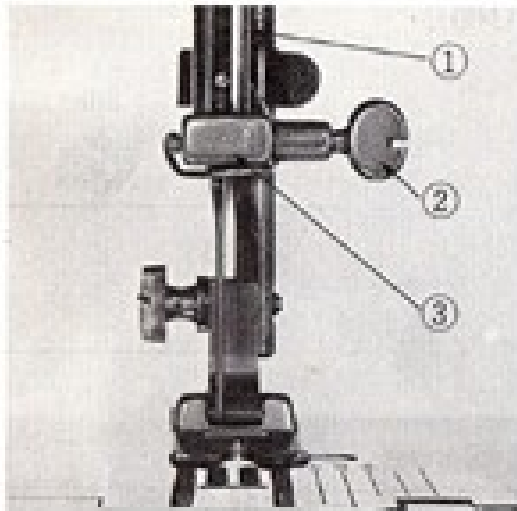

Fig. 3
See Fig.3. Raise the needle bar (1) to its highest point, turning hand wheel toward you by hand. Then loosen the needle clamp screw (2) and the needle can be inserted into clamp (3).
(See Fig. 3 for inserting needles)